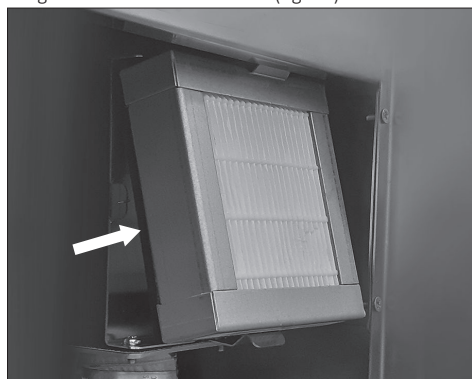

Fig. 18
- 3) Place the new filter, taking care to position the black gasket on the machine side (fig. 18).